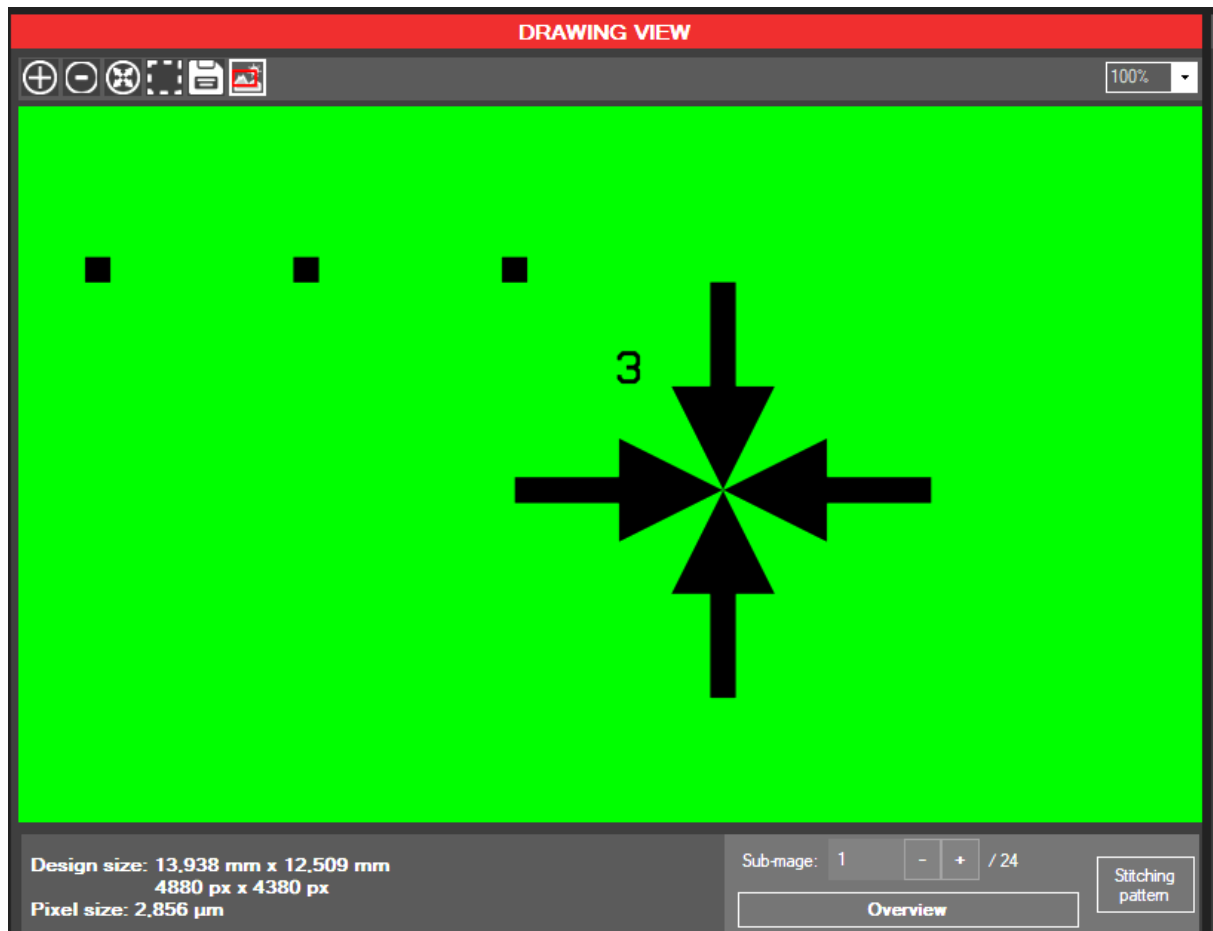

Figure 59 - Semi-auto alignment: defining point P1
- Selection of point P1 (Figure 56c): click on **Overlay pos. P1**. The mouse cursor will change to a cross. On the drawing viewer, select the point you want to align with P1' as shown in Figure 59